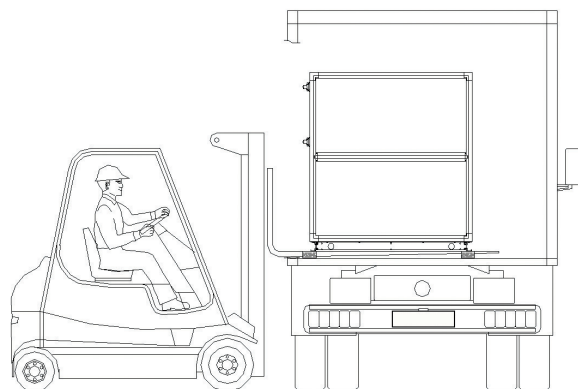

Figure 3
- When loading or unloading with a forklift always transport the air handling unit on the wooden beams or pallet provided (Figure 3).